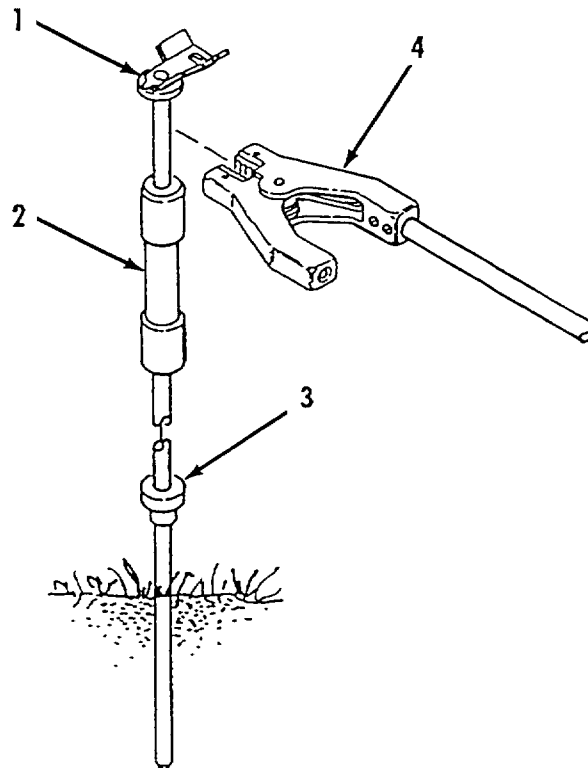

Figure 2-17. Refueling Point Ground Rod Installation.
- (20) Connect wye (27) (2 in. M x 2 in. M x 2 in. F) to 2 in. x 10 ft. suction hose (26).
- (21) Connect water detection kit adapter assembly (28) to filter separator (22).
- (22) Connect valve section (29) to water detection kit adapter assembly (28).
- (23) Connect 3 in. female x 2 in male reducer (30) to valve section (29).
- (24) Connect 2 in. x 10 ft. discharge hose (31) between reducer (30) and wye (27).
- (25) Connect 2 in. x 10 ft. discharge hose (32) and wye (33) (2 in. M x 2 in. M x 2 in. F) to wye (27).
- (26) Connect three 2 in. x 50 ft. discharge hoses (34, 35, and 36) to wye (33).
- (27) Connect three 2 in. x 50 ft. discharge hoses (37, 38, and 39) to wye (33).
- (28) Connect D1 nozzle (40) or CCR nozzle (41) to 2 in. x 50 ft. discharge hose (39).
- (29) Connect D1 nozzle (40) or CCR nozzle (41) to 2 in, x 50 ft. discharge hose (36).
- j. Refueling Point Ground Rod Installation. Refer to figure 2-17. Before the AFARE can be placed in operation, it must be properly grounded. Install ground rods at both refueling points. Rods must be installed within 6 feet of each refueling point to provide enough slack in grounding cable to connect nozzles to aircraft adapters.